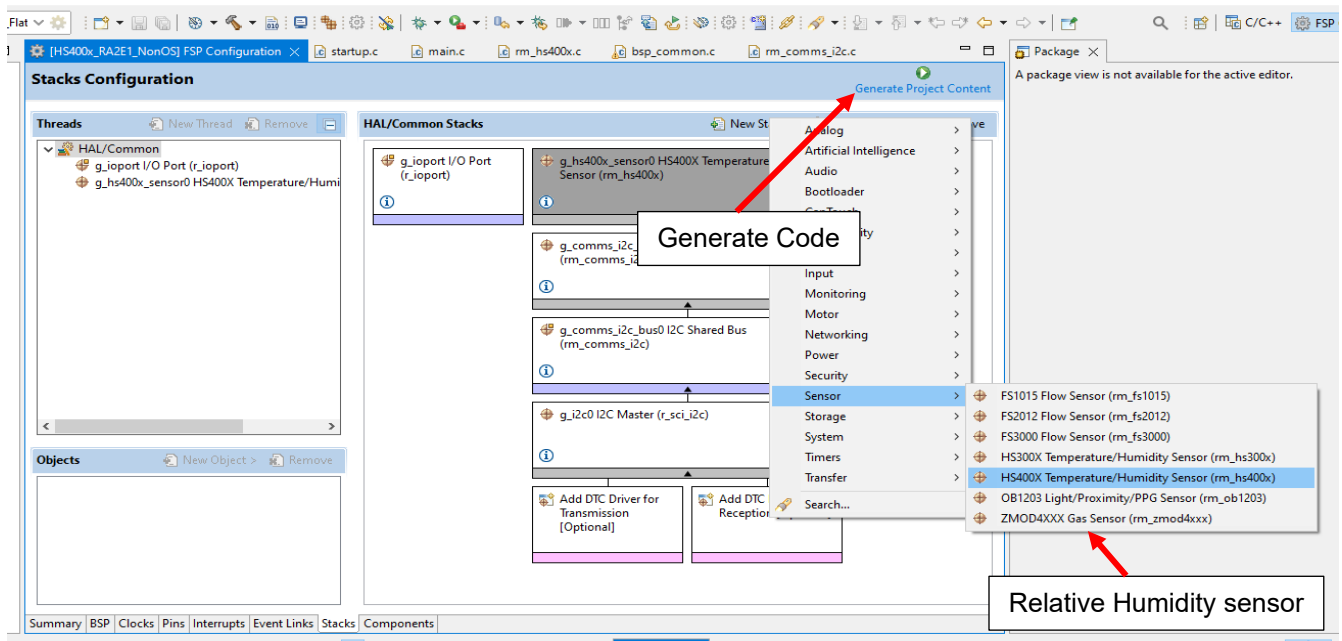

Figure 4. Stack Selection in Renesas e2 Studio
1. Navigate to the FSP Configuration View / file. In the case shown in Figure 4, select the `r_hs4001_rx`.